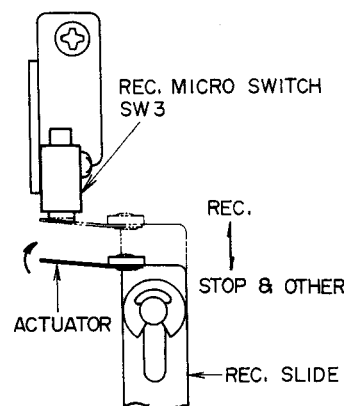

Fig. 8
6. RECORDING SLIDE POSITION ADJUSTMENT (Refer to Fig. 8)
At stop mode, adjust by bending the actuator (phosphor bronze plate) shown in Fig. 8 toward arrow so that when the machine is set to recording mode, the actuator on the recording slide pushes recording micro switch SW3 properly.